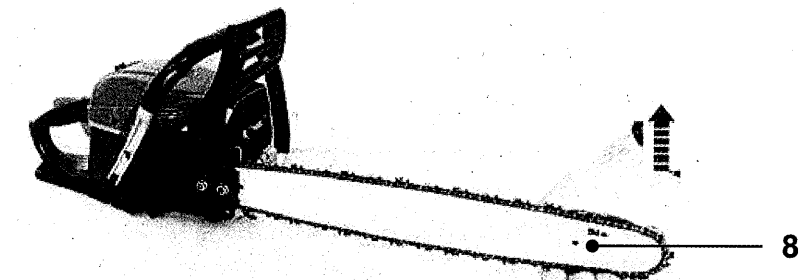

Fig. 8
1. Lift up the tip of the guide bar (8) and keep it there as you adjust the tension (Fig. 8).